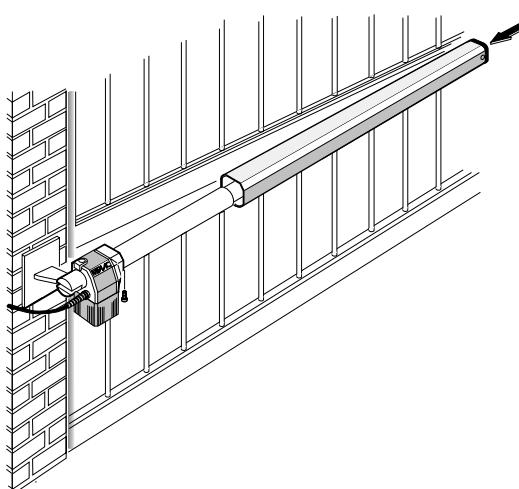

Fig. 9
- 12) Fit the cover (fig. 8) on the operator as shown in fig. 9.